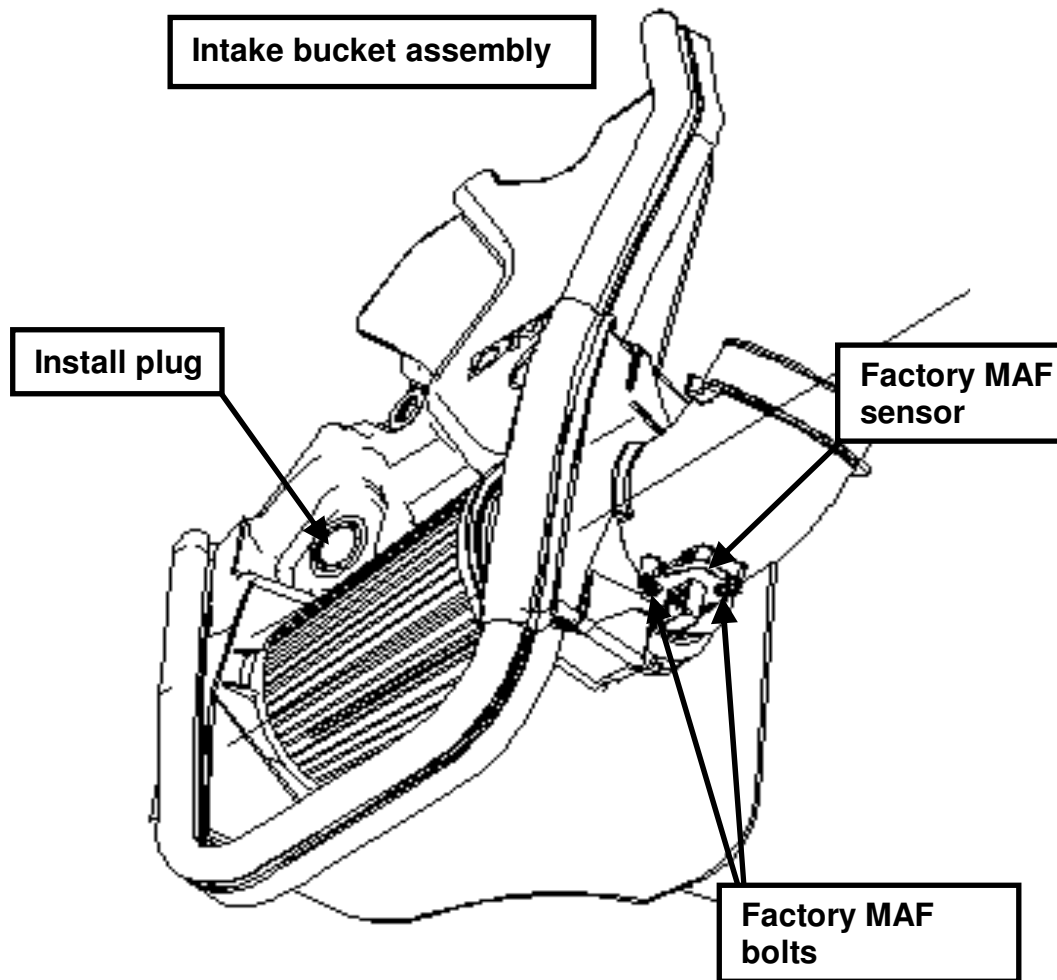

Fig. 4
**STEP 1:** Install the MAF sensor using the bolts Item #8 into the new air intake bucket assembly. Torque the bolts to 4 Nm (35 lb-in) (See Fig. 4).